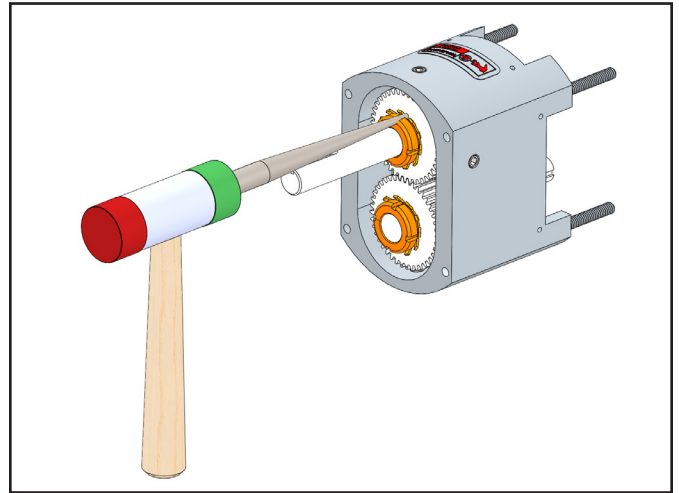

Figure 46.
10. Fold one of the lock washer tabs into the hole on the gear and another into a locknut wrench grooves (fig. 46)